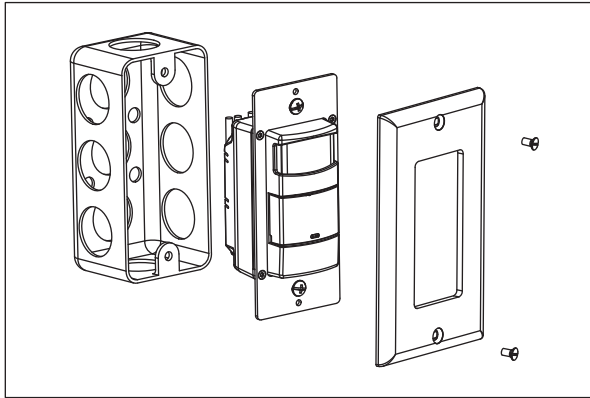

FIG.2
3. After wiring, fix the detector to the junction box with 2 screws. (FIG.2)